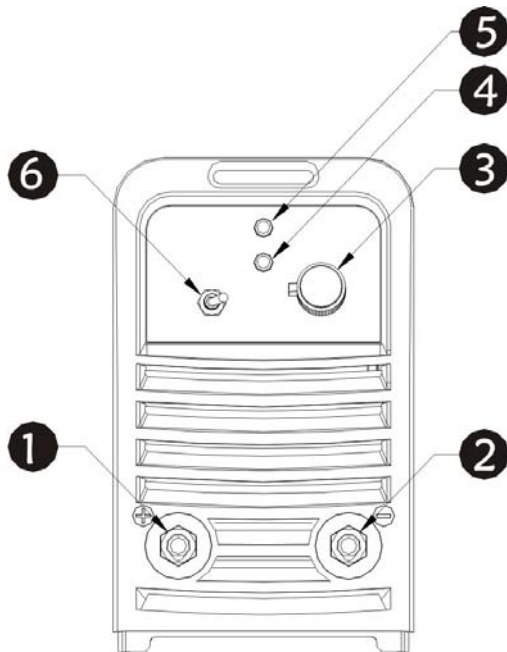

Figure 1
- **Front control panel** (see Figure 1)